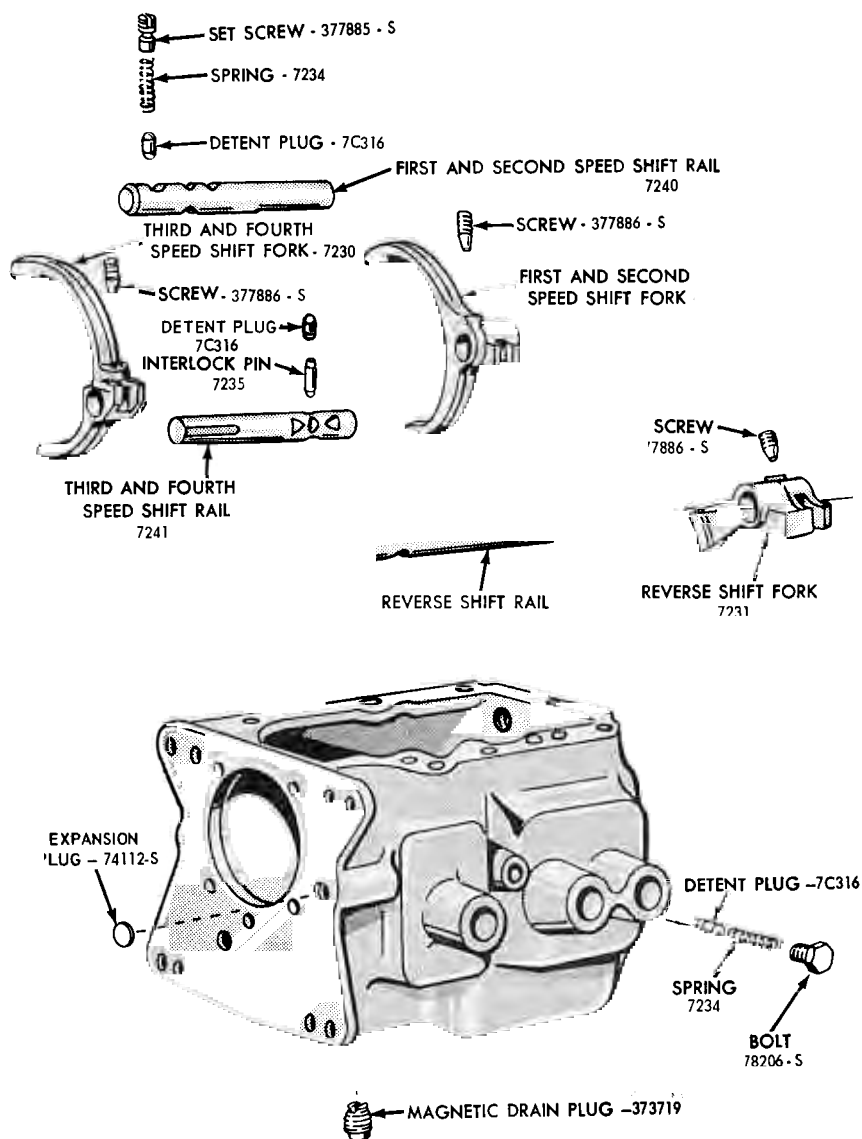

FIG. 5—Shift Rails and Forks Disassembled
7. Remove the bolt that retains the third- and fourth-speed shift rail detent spring and the plug in the left side of the case as shown in Fig. 5. Remove the spring and the plug with a magnet.
11. Remove the interlock plug and the detent plug from the top of the case (Fig. 5) with a magnet.